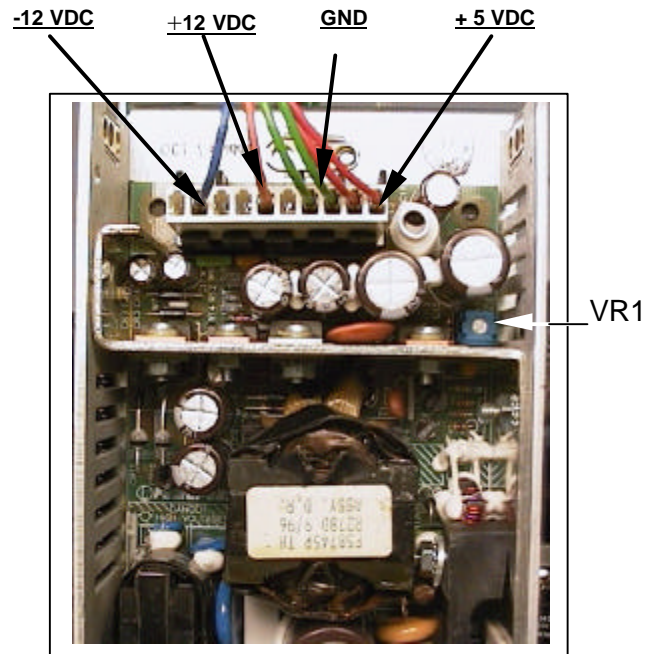

Figure 8-1
3. Measure the output voltage of supply V1. Terminal 1 of TB2 which is the positive output and terminal 4 of TB2 which is DC Ground (Refer to figure 8-1).
4. The nominal output voltage should be +5 volts DC (Range from 4.75 VDC to 5.25 VDC) If the voltage is not within this range, locate potentiometer V1 (refer to figure 8-1) and adjust the voltage while monitoring it on the meter. top of chapter